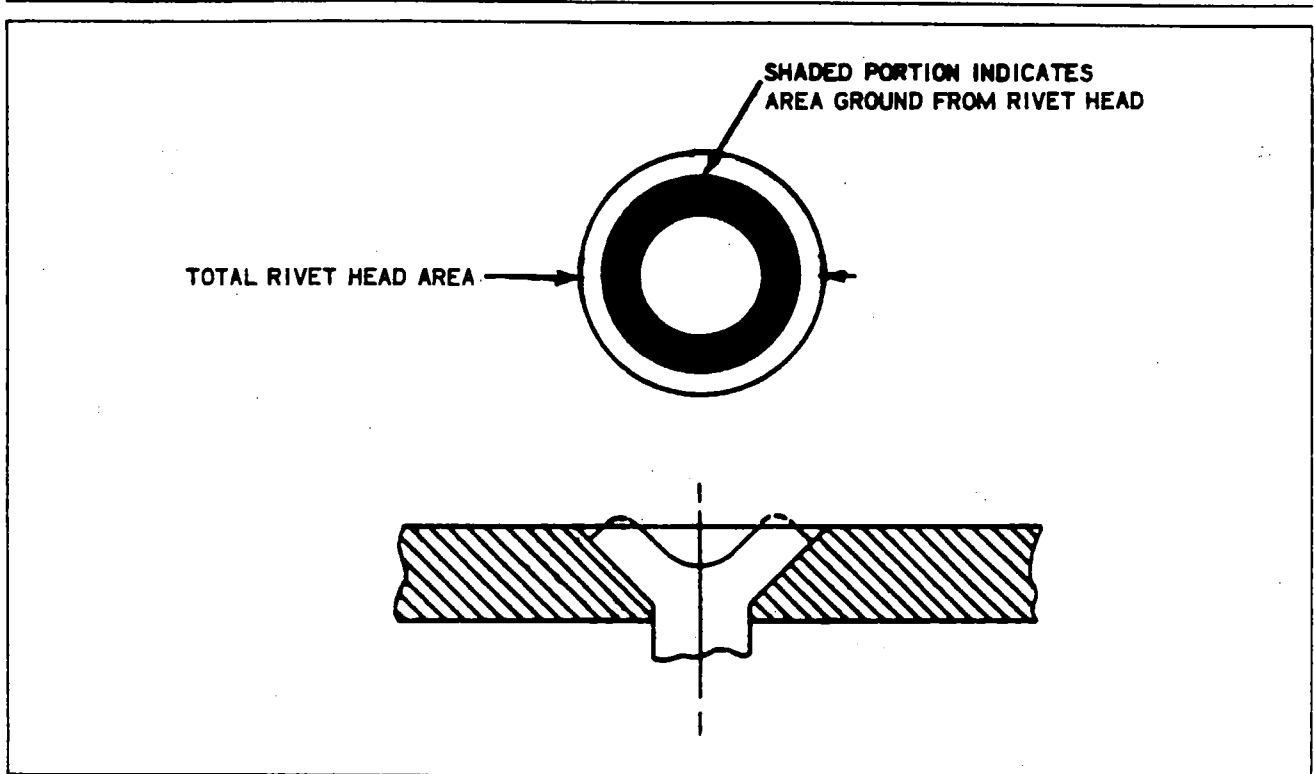
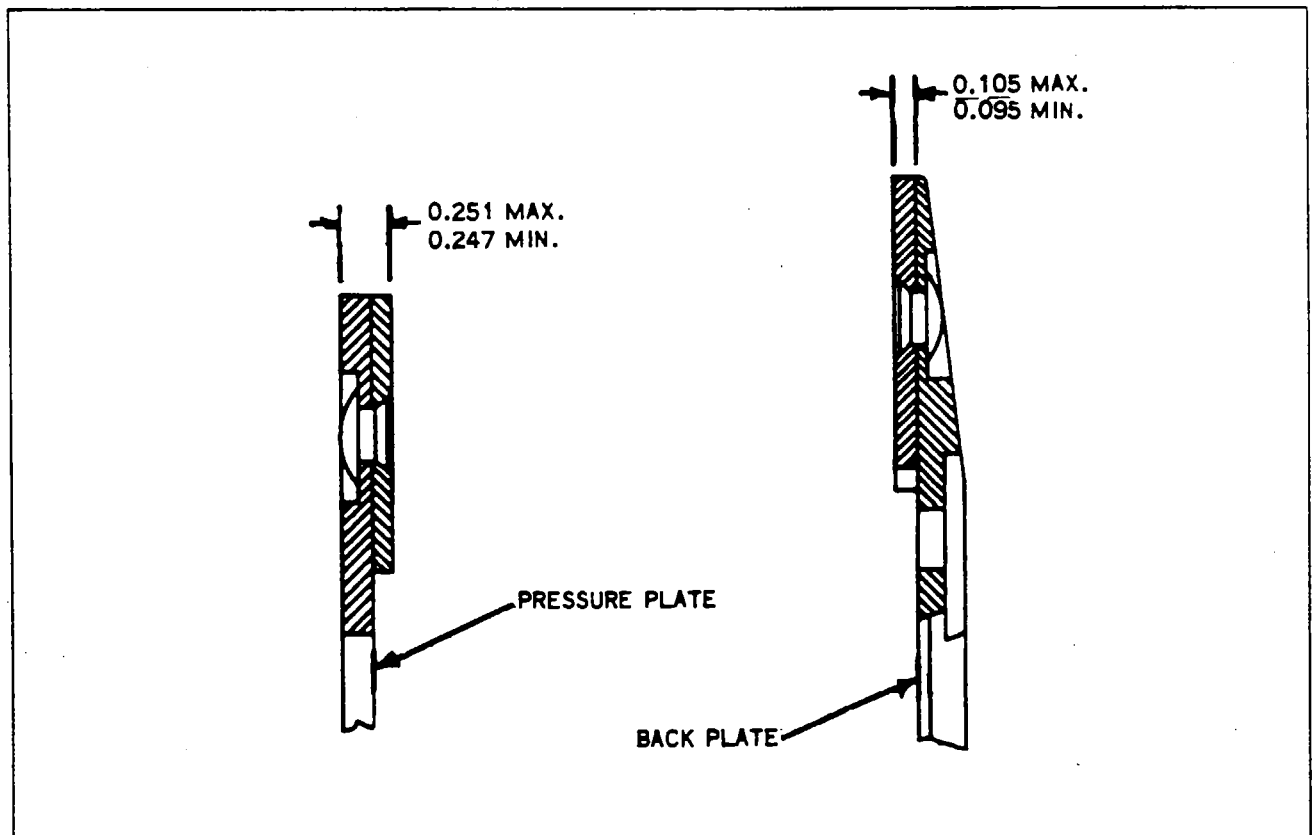

Figure 7-15. Rivet Head Grinding Limits
Figure 7-17. Limits for Repadded Pressure and Back Plates
4. After repadding, grind the wear padded sub-assembly to the thickness as shown in Figure 7-17.
Wear pads must be ground flat to each other with assurance that the minimum dimensions shown in Figure 7-17 are held. Not more than 25 percent of the rivet head shall be removed by grinding. (Refer to Figure 7-15.)